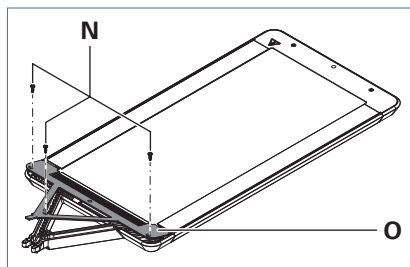

Fig. 5: Luminaire head- removing the cover.
1. Unscrew the screws **N** from the cover **O**, see Fig. 5.